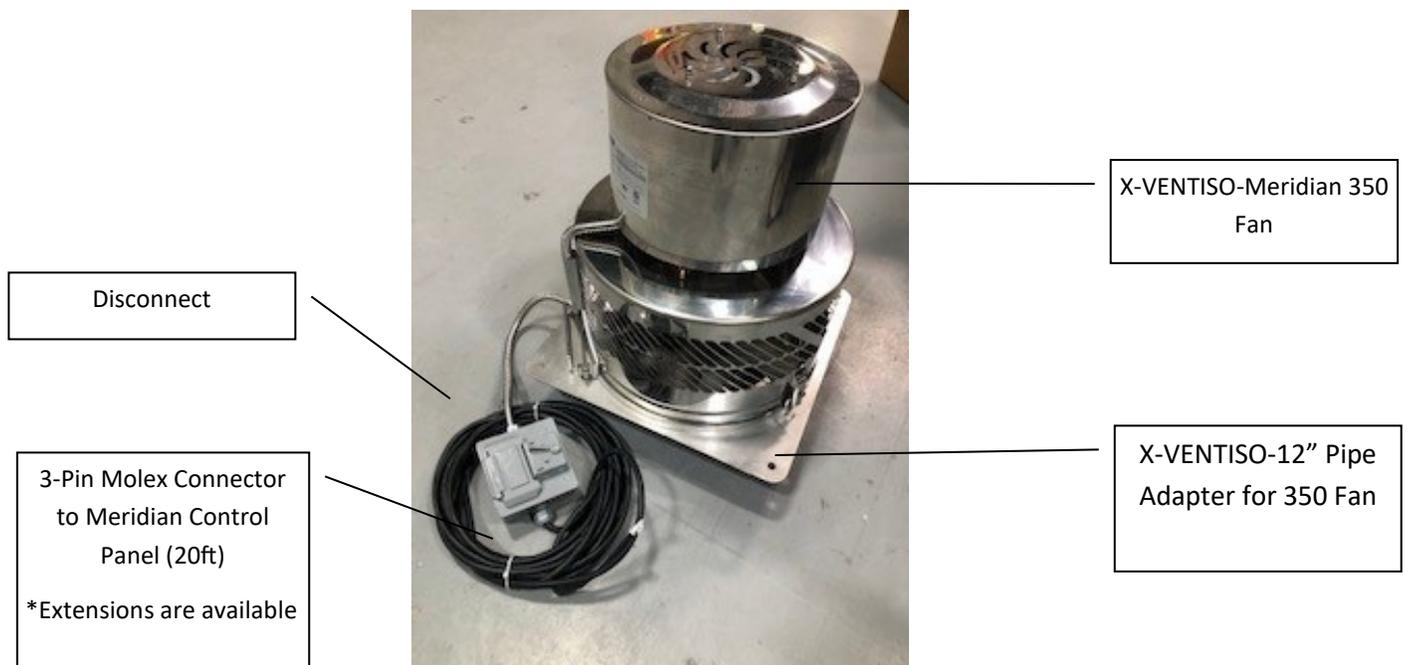

FIGURE 23
The X-VENTISO-Meridian-350 Fan (**Figure 23**) is a high temperature exhaust fan that maintains the necessary draft for the XCELUX SEE-THRU series. It has been rated for all high temperature chimney, flue, and grease duct applications up to 2100 CFM, but has specific Molex connections for usage with the Meridian Control Panel. This fan is UL and ULC listed for all gas, liquid, or solid fuel burning fireplaces, ovens, cooking appliances, and domestic heating appliances, up to 1000°F continuous, 1400°F abnormal. The housing and impeller are constructed of 316L stainless steel, which helps prevent corrosion from the elements. The tool-less clamp and hinge provides easy access to the impeller for routine maintenance and cleaning.
The X-VENTISO-Meridian-350 fan uses the X-VENTISO-12" Pipe Adapter for 350 Fan (**Figure 23**) to mate the fan to 12" B-vent chimney. The adapter has a slip-fit collar that inserts into the B-vent pipe and a mounting flange that provides a stable surface for the fan. The adapter allows for the fan to be mounted to the exterior wall of the structure in horizontal termination installations.
- The location of the Meridian Control Panel is dependent upon the fireplace model and must be within the values shown in **(Figure 23)**. The distances shown are as measured horizontally from the fireplace flue-outlet.
- Two 120 VAC / 15A outlets must be provided at the chosen location on a dedicated circuit; one for the Meridian Control Panel, the other for the Gas Valve Control Box . These outlets must be within the extent of the 72” power supply cables of the Meridian Control Panel and the Gas Valve Control assembly **(Figure 23)**.